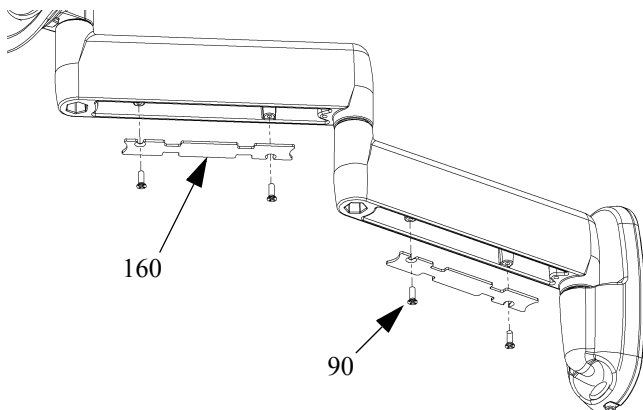

Figure 11: Cable Management
3. Secure cables using two cover plates (160) and four screws (90). (see figure 11)